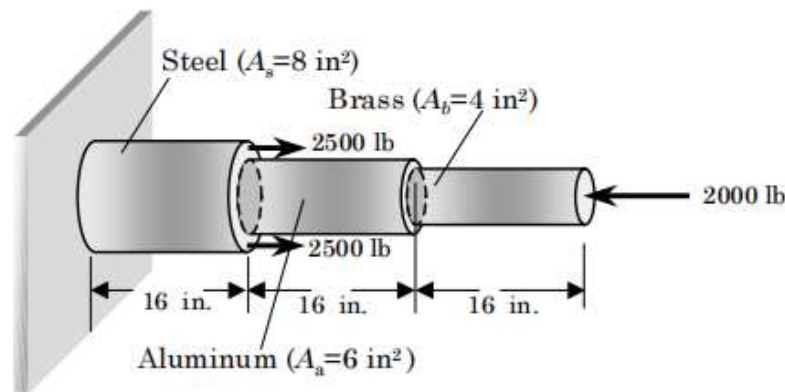

Figure-4
- (c)** Find the stresses and compression in each section of the composite member shown in below Figure-4. Use $E_s = 30 \times 10^6$ psi, $E_a = 10^7$ psi, $E_b = 15 \times 10^6$ psi, and the minimum number of linear elements. **07**